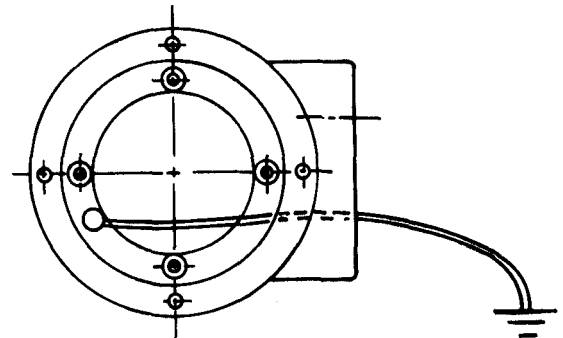

Figure 7. Terminal Box Grounding
- (c) Inside the terminal box is a ground terminal. The terminal should always be used to ground the pump. Reference Figure 7.